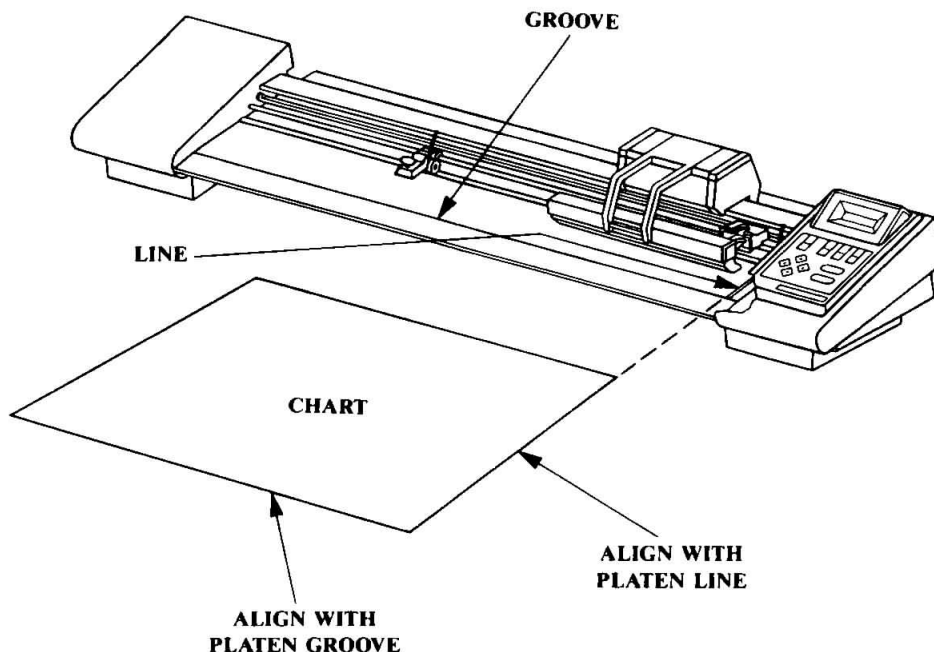

FIGURE 1-6. LOADING A CUT SHEET CHART
- To load a cut sheet chart, raise the left and right pinch roller arms. For the DMP-162R, make sure the media guide wireform and wireform basket are in their storage positions. Slide the cut sheet chart under both pinch rollers. When loading larger size charts, you may find it easier to insert the chart from the rear of the plotter. When loading smaller charts, you may find it easier to insert the chart from the front of the plotter. Carefully adjust the chart so that its right edge aligns with but does not cover the line on the right side of the platen. Align the front edge of the chart with the groove on the front of the platen. See Figure 1-6. Lower both pinch roller arms to secure the chart in the plotter.